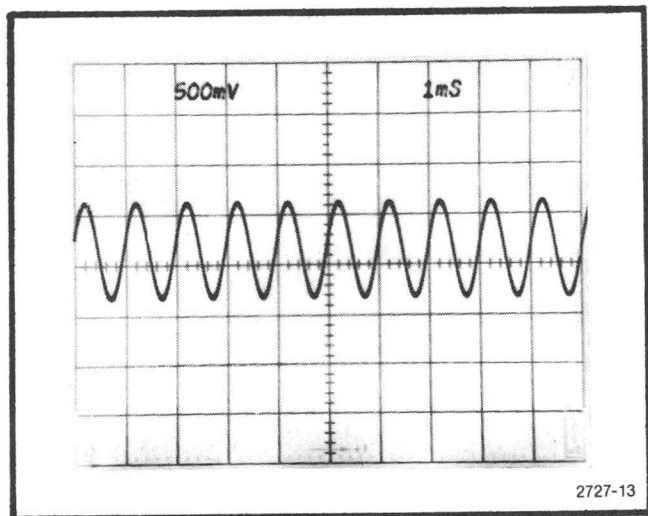

Fig. 3-20. Test oscilloscope display of a sinewave input signal to EXT TRIG connector (input 0.5 V peak or 1.0 V peak-to-peak).
i. Set the sine-wave generator frequency to 1 kHz. Adjust its output level for 1 V peak-to-peak (0.5 V peak) as indicated on the test oscilloscope (see Fig. 3-20).